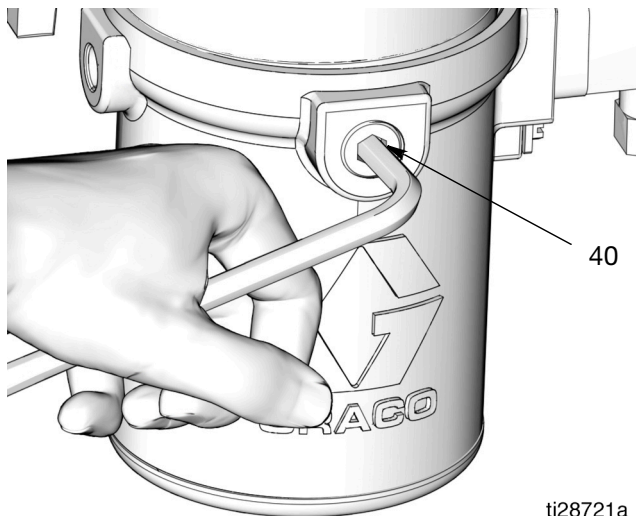

FIG. 11
5. Use a hex wrench to slowly loosen and remove the drain plug (40) from the pump base and drain oil from the pump (FIG. 11).